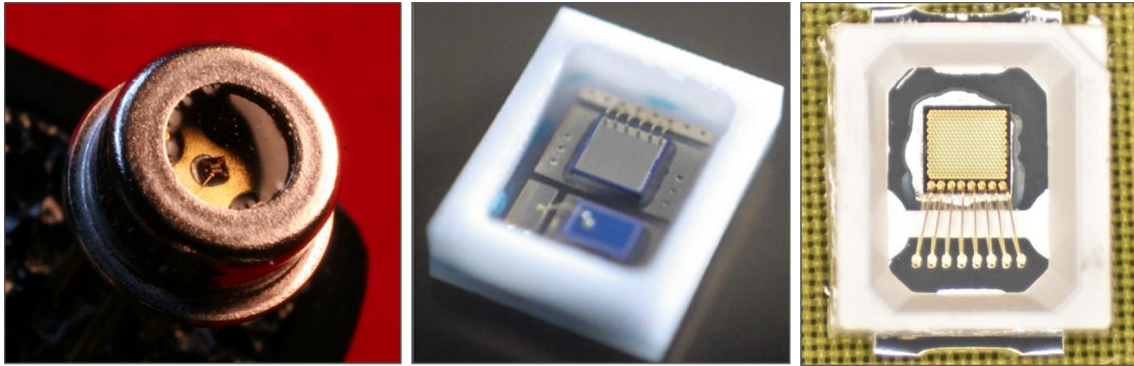

Figure 1: VCSELs integrated in TO can (left), ceramic (center), and PLCC-2 (right) packaging.
Vertical Cavity Surface Emitting Lasers (VCSELs) are top-emitting sources and can be wafer-probed before dicing, sorting, and packaging. This allows for VCSELs to be easily packaged into many different form factors. While most EEL-based semiconductor lasers have traditionally been mounted in transistor outline (TO) packaging to re-orient the laser die vertically, VCSELs can be mounted in more cost-efficient packages already available to LED technology [Figure 1]. This allows VCSEL die to be handled more effectively by end customers who would prefer to develop their own packaging for small footprint VCSEL applications. However, there are additional design criteria that need to be met for VCSELs to achieve their performance targets.